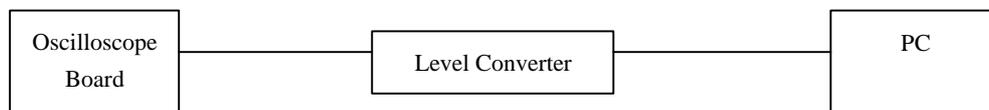

Fig. 3
- 2) Connect the other end of level converter to PC (Fig. 3).